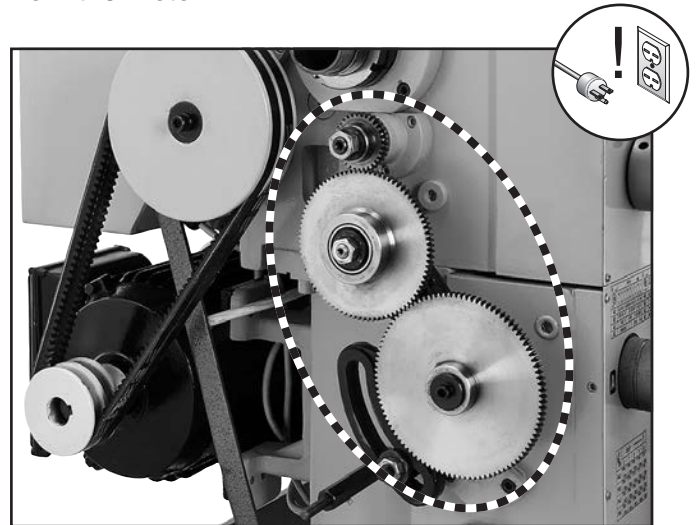

Figure 116. Location of end gears for lubrication.
The end gears, shown in **Figure 116**, should always have a thin coat of heavy grease to minimize corrosion, noise, and wear. Wipe away excess grease that could be thrown onto the V-belts and reduce optimal power transmission from the motor.
2. Open end gear cover and remove all end gears shown in **Figure 116**.